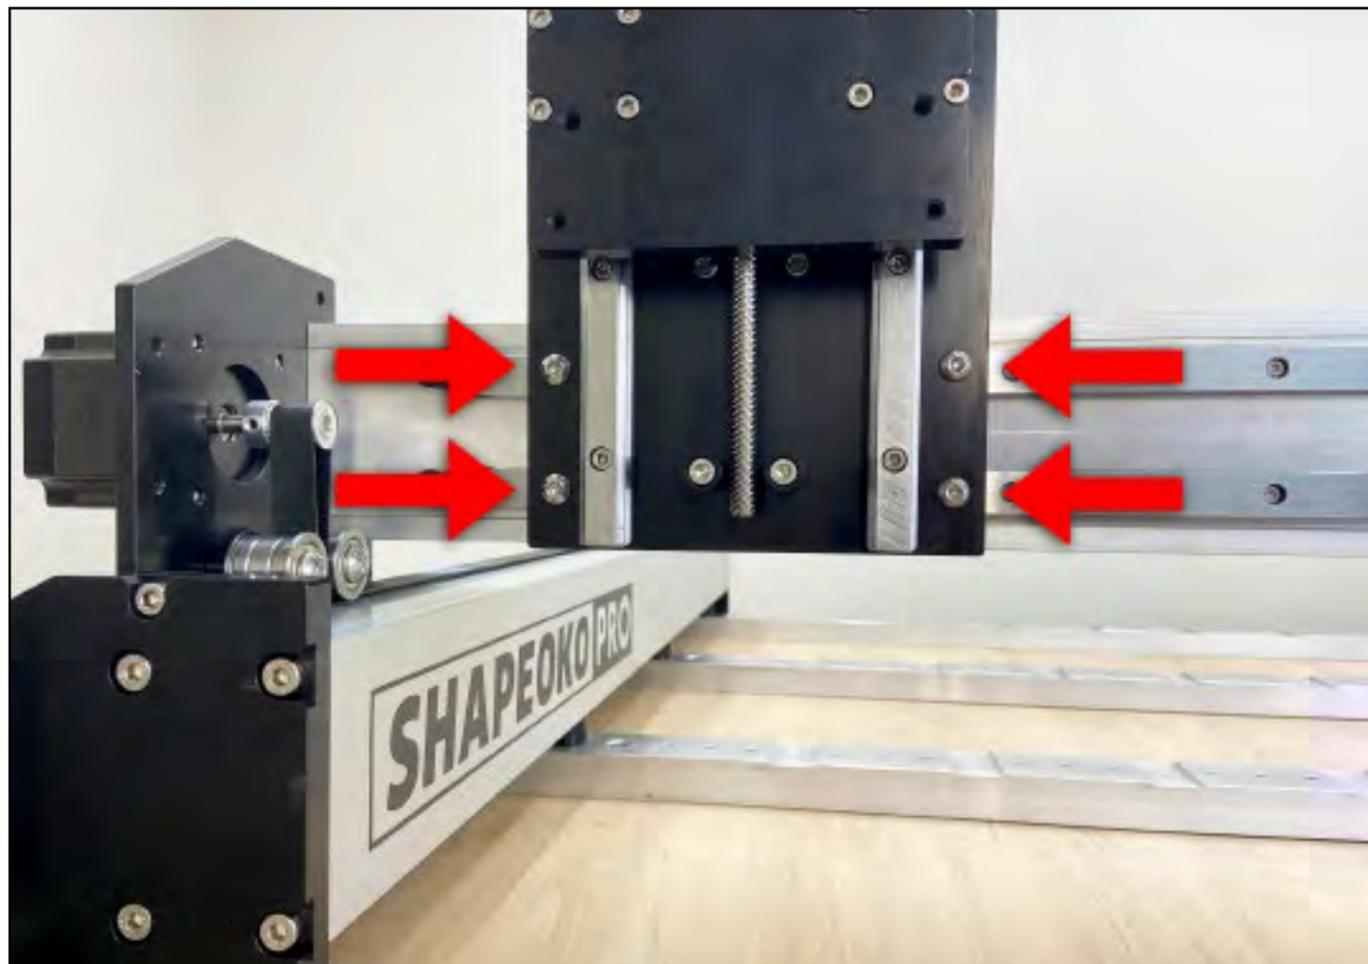

Figure 5-2
2. Position the X/Z assembly over the front of the X-Axis carrier plate. See **Fig. 5-2**.
3. Use a 4mm hex key and four (4) M6×12mm BHCS to secure the X/Z assembly to the X-Axis carrier plate. Fully tighten.